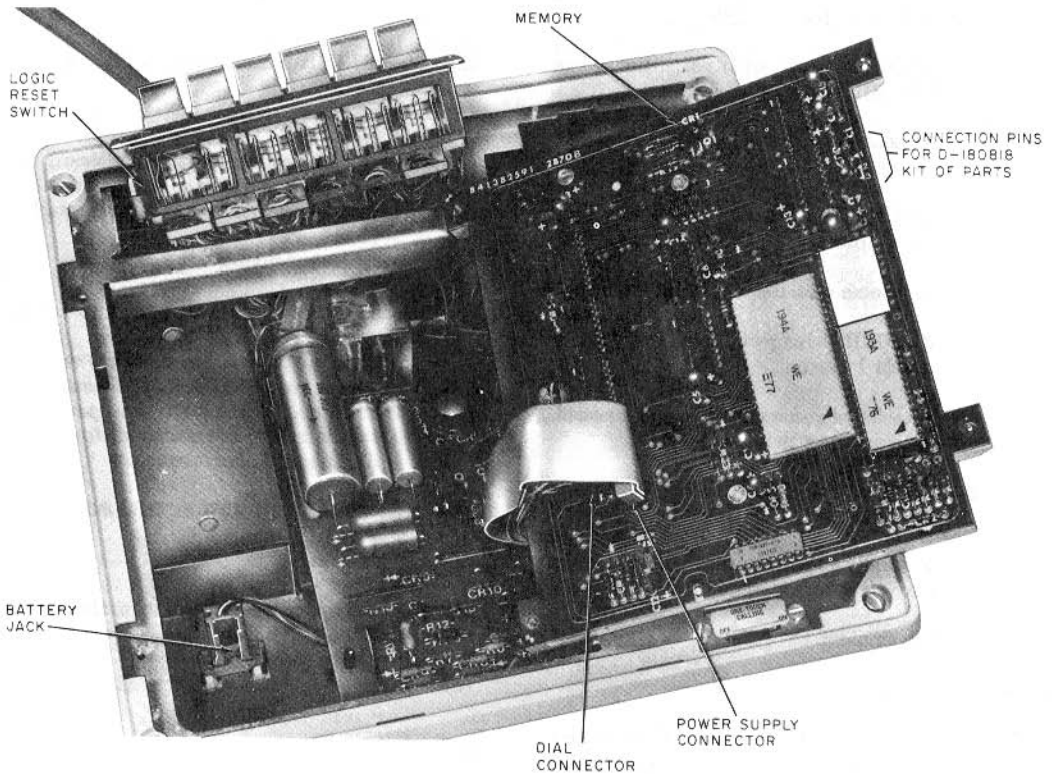

Fig. 5—2872A2M Telephone Set, Internal View, Overall
- (4) Disengage the two captive dial mounting screws and move dial aside.
- (5) Rotate left edge of the memory upward as shown by Fig. 5.
- (6) Mount switch below dial using the two screws provided.
- Battery jack (Fig. 5)